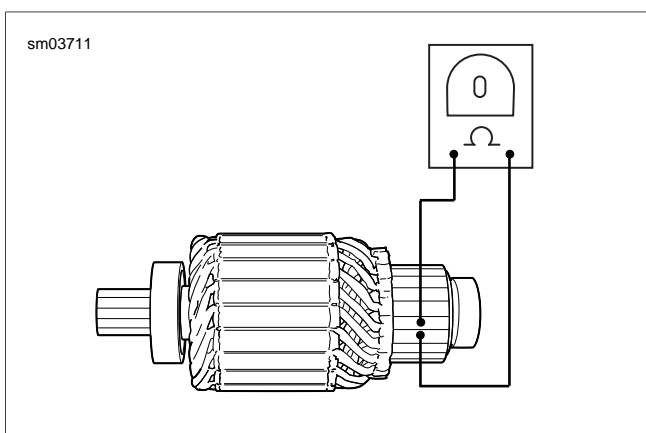

Figure 1-14. Open Armature Test
6. See Figure 1-14. Check for an open armature with an ohmmeter or continuity tester.